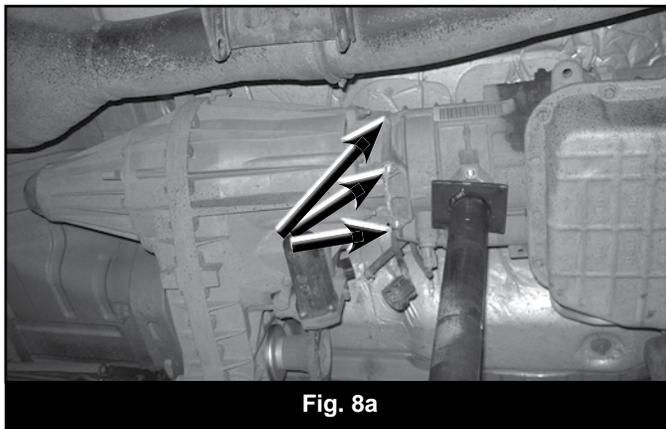

Fig. 8a
14. Support the transfer case and remove the 6 nuts that attach the transfer case to the transmission. (Fig 8a, 8b)